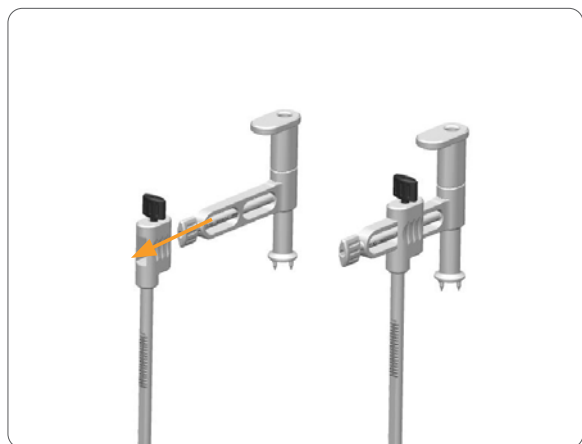

Figure 102
1. Slide the IM Alignment Jig into the Spiked EM/IM Down Rod (**Figure 102**).